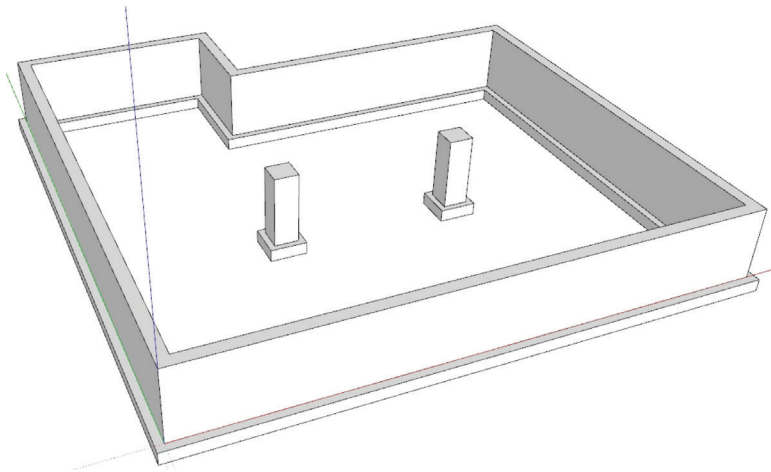

Figure 10.27 3D Crawl Space.
25. Again, you must now make these groups! So, triple-click on the wall to select all edges and faces, right-click and choose Make Group. Repeat this step for the two piers. You should now have a 3D model of a crawspace! (See Figure 10.27.)